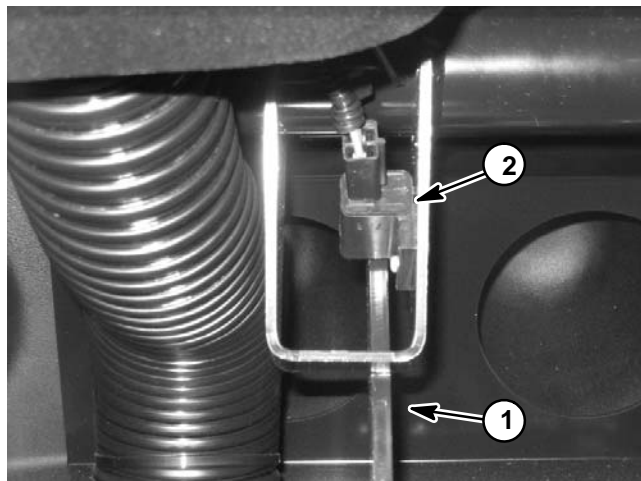
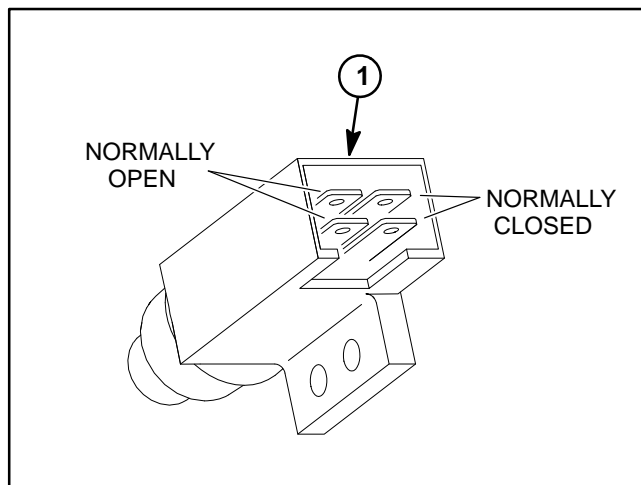

Figure 13
Figure 14
The brake switch is attached to the frame under the dash (Fig. 13). A switch with one set of normally closed terminals is used on 2WD units. A switch with one set of normally closed terminals and one set of normally open terminals is used on 4WD units (Fig. 14).
1. Park vehicle on a level surface, shut engine off, remove key from ignition switch and apply parking brake. Locate the brake switch (Fig. 13).
**2WD UNITS:** Test continuity across the two (2) switch terminals. There **should be** continuity (zero ohms) when the brake pedal is depressed and there **should not be** continuity (infinite ohms) when the brake pedal is released.
**4WD UNITS:** Test continuity across the two (2) normally closed switch terminals (Fig. 14). There **should be** continuity (zero ohms) when the brake pedal is depressed and there **should not be** continuity (infinite ohms) when the brake pedal is released.
Test continuity across the two (2) normally open switch terminals (Fig. 14). There **should not be** continuity (infinite ohms) when the brake pedal is depressed and there **should be** continuity (zero ohms) when the brake pedal is released.